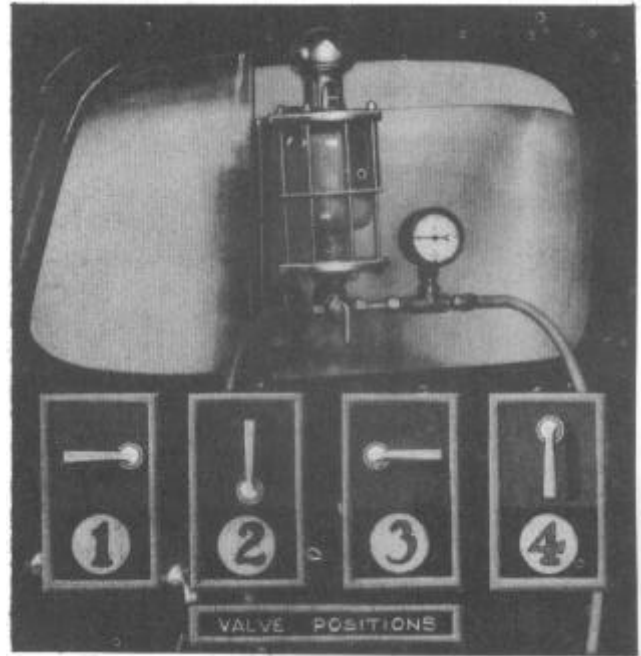

Figure 35 Fuel Pump Test
The equipment shown in Figure 35 makes it possible to take the above two readings without disturbing the functioning of the fuel system and the engine may be operated in the shop or on the road at any speed using the fuel from the car gasoline tank. Readings can be taken from the drivers seat.
Remove the fuel line from the fuel pump to the carburetor. Install the testing equipment as shown in Figure 35 and connect the hose from the rear to the fuel pump outlet and the hose from the front to the carburetor inlet.
Turn the valve to position 3 in Figure 35 and start the engine. With the valve in this position the pump will deliver fuel directly to the carburetor and the delivery pressure will be shown on the gauge.
Turn the valve to position (1), Figure 35, and the gauge glass will fill with gasoline while fuel is still being supplied directly to the engine.
1. Valve in position 3 Figure 35 the pressure should show at least one pound pressure.